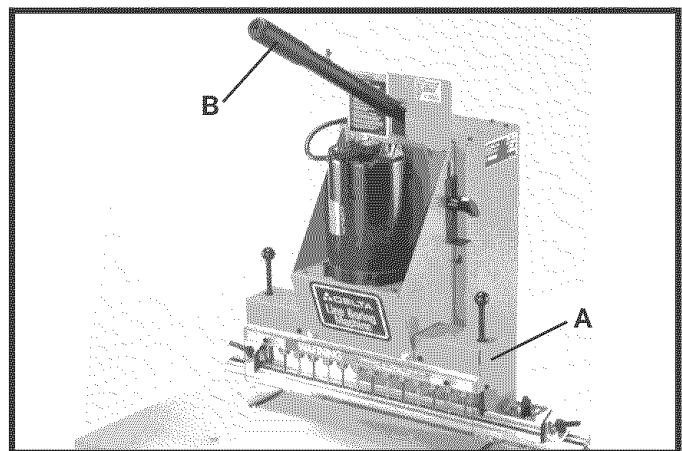

Fig. 49
To lower the boring head (A) Fig. 49, pull down on handle (B). After holes have been bored, return handle to the up position.